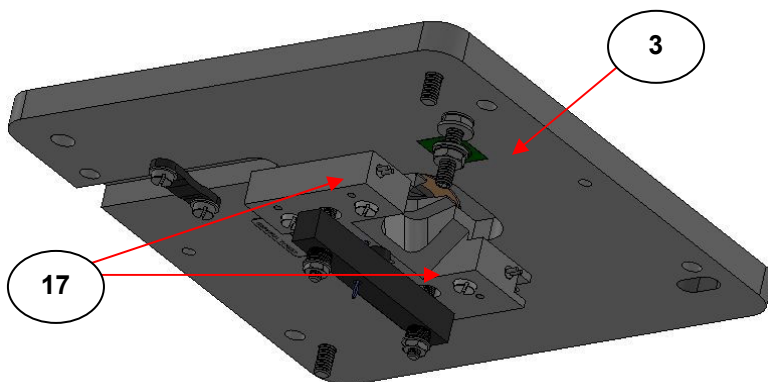

Fig 8. Low Temperature Golden Gate™ Heated Top Plate Assembly underside view
The successful use of the Low Temperature Golden Gate™ ATR accessory depends on the correct balancing of a particular refrigerants "heat removing" capability against the energy (heat) input from the electrical block heaters (17), built into the heated top plate assembly (3) at the base of the dewar assembly (2). See Fig 8. The type of experiment being carried out also determines a method of use and, most importantly, the choice of thermal transfer gasket (5) between the dewar assembly (2) and the diamond/tungsten carbide puck (1).